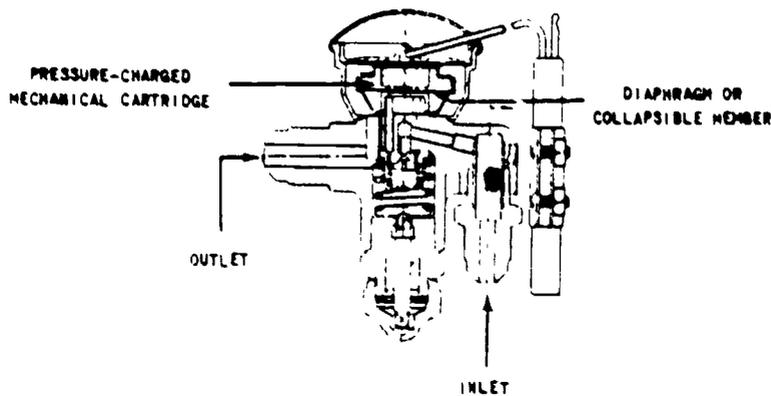

Figure 23. Pressure-Limiting Device
**Pressure Limiters.** Liquid-charged valves must contain a pressure-limiting device. This can be accomplished by introducing a gas-charged pressure cartridge or collapsible link between the diaphragm and the push rods that open the needle valve (see Figure 23).